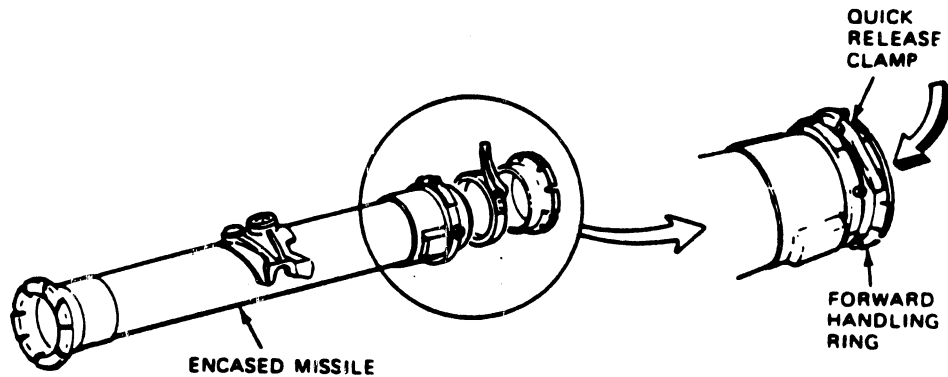

Fig 4-49. Replacing quick release clamp/forward handling ring.
Step 7. Replace the quick release clamp, preformed packing, and forward handling ring on the encased missile and stow it either in the jeep launcher or missile carrier (fig 4-49).